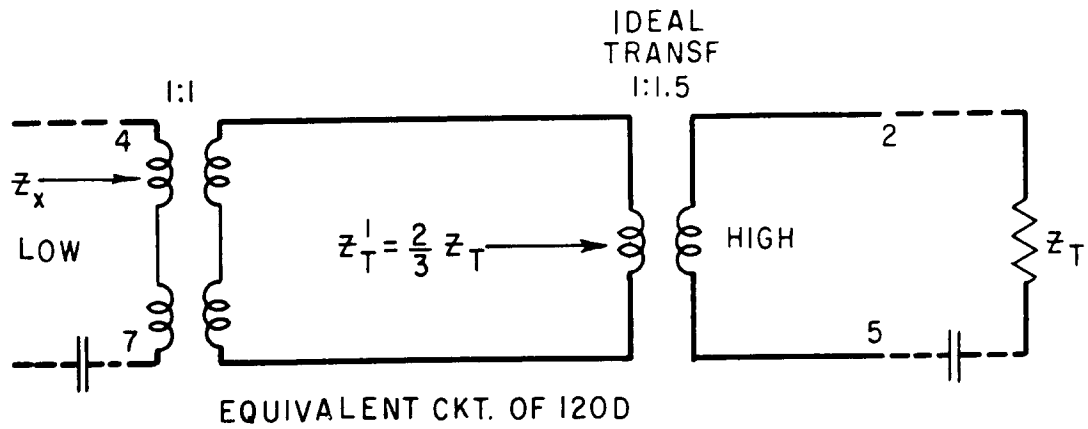

FIG. 2
1.03 The input impedance  $Z_X$  looking into the low side of the 120D coil, as indicated in Fig. 2, is found by entering the appropriate chart with the value of terminating impedance  $Z'_T = 2/3 Z_T$ . The input impedance looking into the high side, as indicated in Fig. 3, is given by  $Z_X = 1.5 Z'_X$ , where  $Z'_X$  is the value of input impedance obtained from the chart for a terminating impedance  $Z_T$ .
(See Fig. 2)